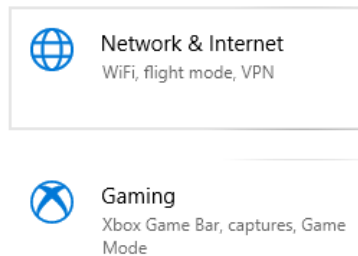

Fig.2
3. Choose Network and Internet (Fig.2).